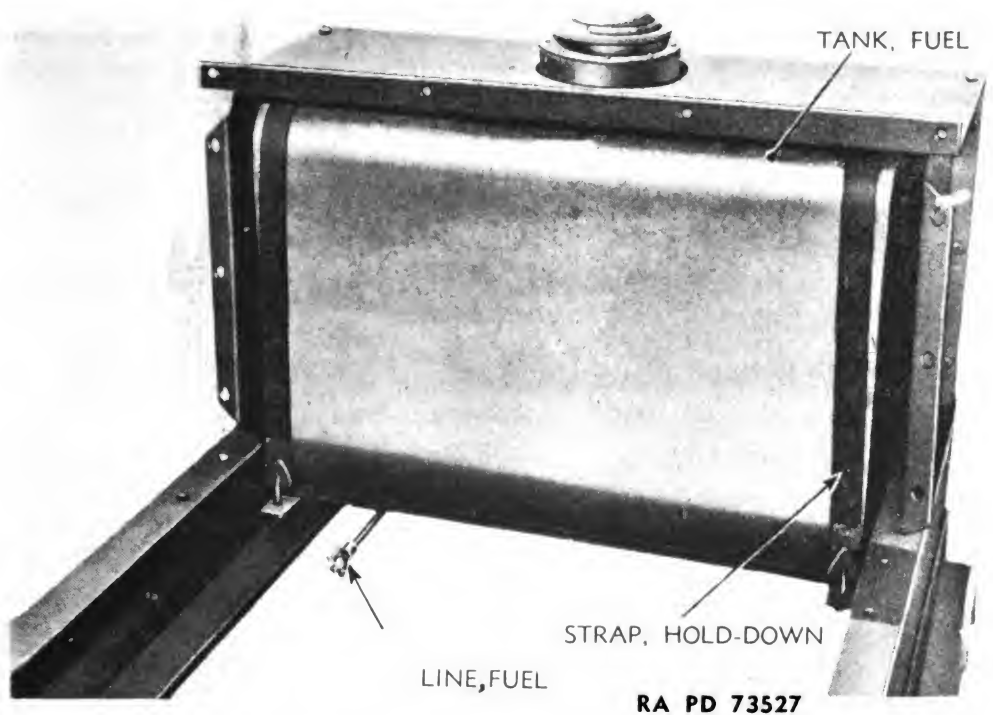

Figure 86 – Fuel Tank on Unit, Showing Hold-down Straps
(2) Remove cap screws and nuts holding guard to rear housing panel. Remove cap screws and nuts holding guard to frame. Remove nuts from strap-end bolts attaching tank straps to frame cross member behind rear panel (fig. 86). Lift guard up and off. Remove tank.
- (1) Place tank on frame, and connect fuel line.
- (2) Bring fuel tank guard down over fuel tank, at the same time carrying tank hold down straps down under frame rear panel to holes provided for tank strap end bolts in frame rear cross member (fig. 86). Insert bolts and adjust nuts to hold straps firmly in place. Install cap screws and nuts to attach guard to frame. Install cap screws and nuts to attach guard end panel.